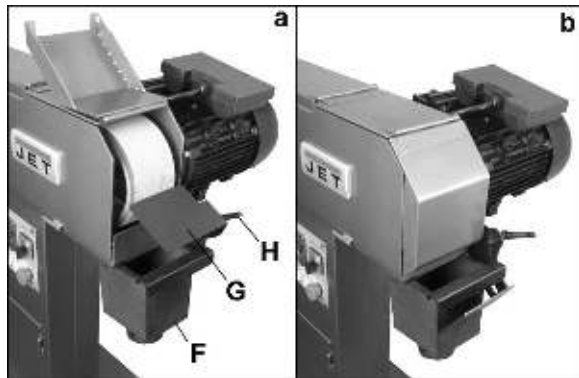

Fig.6
Adjust table (G, Fig 6) into position and tighten handle (H).